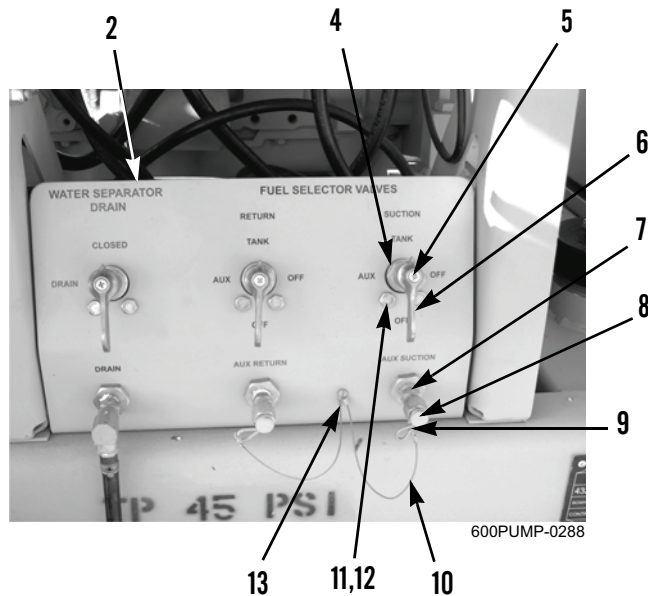

Figure 7. Fuel Selector Panel, AUX Suction Inlet Fitting, and Fuel Suction Selector Valve.
7. If removed, install lanyard cable (Figure 7, Item 10) on fuel selector panel (Figure 7, Item 2) with screw (Figure 7, Item 13).
8. Install cap (Figure 7, Item 8) on AUX suction inlet fitting (Figure 7, Item 7).
9. Install lanyard cable (Figure 7, Item 10) on cap (Figure 7, Item 8) with S-hook (Figure 7, Item 9).
10. Install fuel suction selector valve (Figure 7, Item 4) on fuel selector panel (Figure 7, Item 2) with two bolts (Figure 7, Item 11) and new locknuts (Figure 7, Item 12).
11. Install handle (Figure 7, Item 6) and screw (Figure 7, Item 5) on fuel suction selector valve (Figure 7, Item 4).